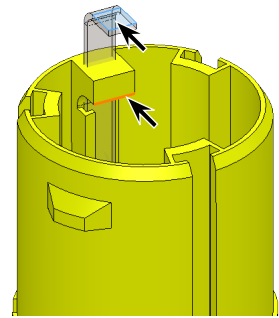

Fig. 7
Step 10. Click **top face of Engine Hook** and **bottom edge of hook stop in Can**, **Fig. 7**.